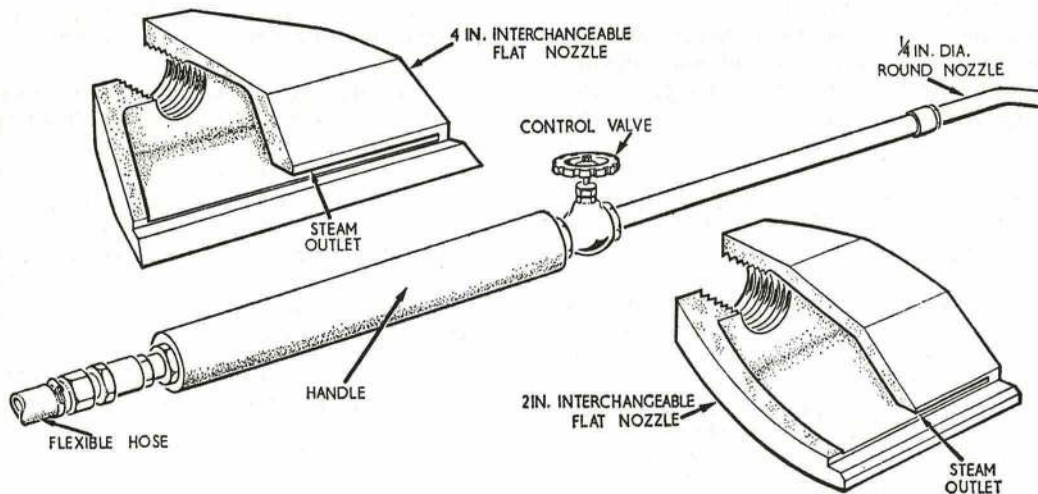

Fig. 11. CLEANING GUN
31. **Cleaning Guns.** Steam from the steam coil is led to a Y-union on the side of the chassis, whence it passes through flexible hoses to the two cleaning guns. Each cleaning gun (Fig. 11) consists of a length of $\frac{1}{2}$ -inch diameter steel tubing, insulated to enable it to be held by hand, a hand-operated control valve and a spray nozzle. Three different nozzles are provided for use with each cleaning gun as follows:—